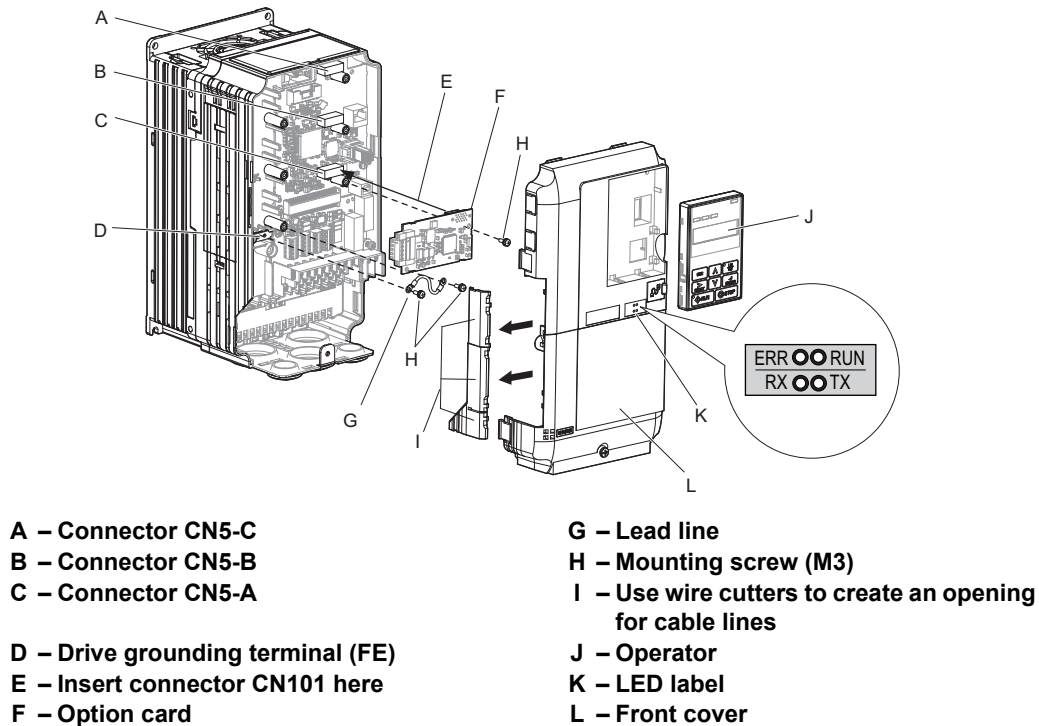

Figure 3 Installing the Option Card
6. Attach the LED label packaged with the option card as shown in Figure 3.